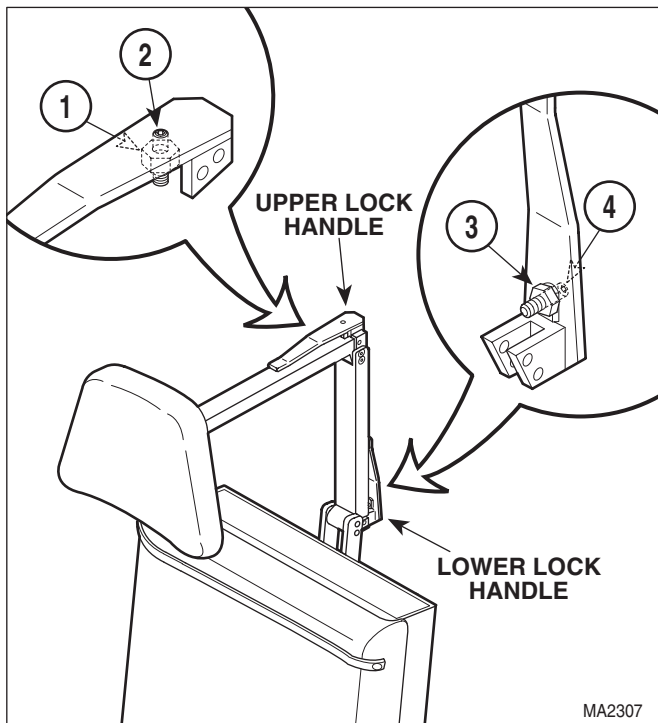

Figure 4-29. Headrest Handles Handle Stops Adjustment
- (1) Loosen nut (1, Figure 4-29).
- (2) Push on upper lock handle until it reaches a point where the upper lock handle wants to lock itself by going over center; then allow upper lock handle to go over center a few degrees. Hold the upper lock handle in this position and adjust stop screw (2) so the upper lock handle will be forced to stop in this position each time it is locked.
- (3) Tighten nut (1).
- (4) Loosen nut (3).
- (5) Push on lower lock handle until it reaches a point where the lower lock handle wants to lock itself by going over center; then allow lower lock handle to go over center a few degrees. Hold the lower lock handle in this position and